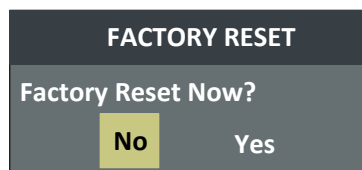

Figure 4.1-5 Reset Menu List
- Press and hold the **INPUT+F2** button for 3s can reset the menu settings to factory originals, as shown in Figure 4.1-5.